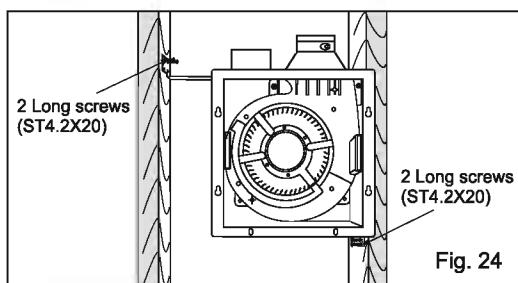

Fig. 24
5. Secure the fan body to the studs by using long screws (ST4.2X20) (refer to step 5 to step 7 of installation II of page 9). (Fig. 24)